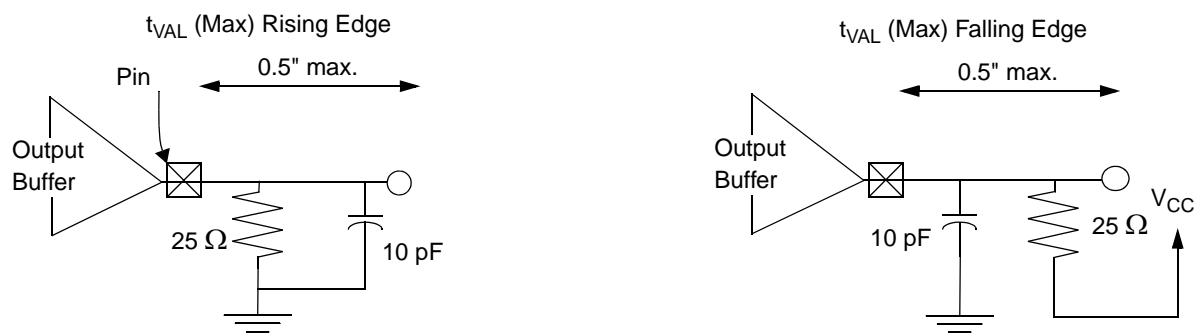

Figure 7-13. Load Circuits for Maximum Time Measurements
2. Minimum times are evaluated with same load used for slew rate measurement (as shown in note 3 of Table); maximum times are evaluated with the load circuits shown in Figure 7-13, for high-going and low-going edges respectively.